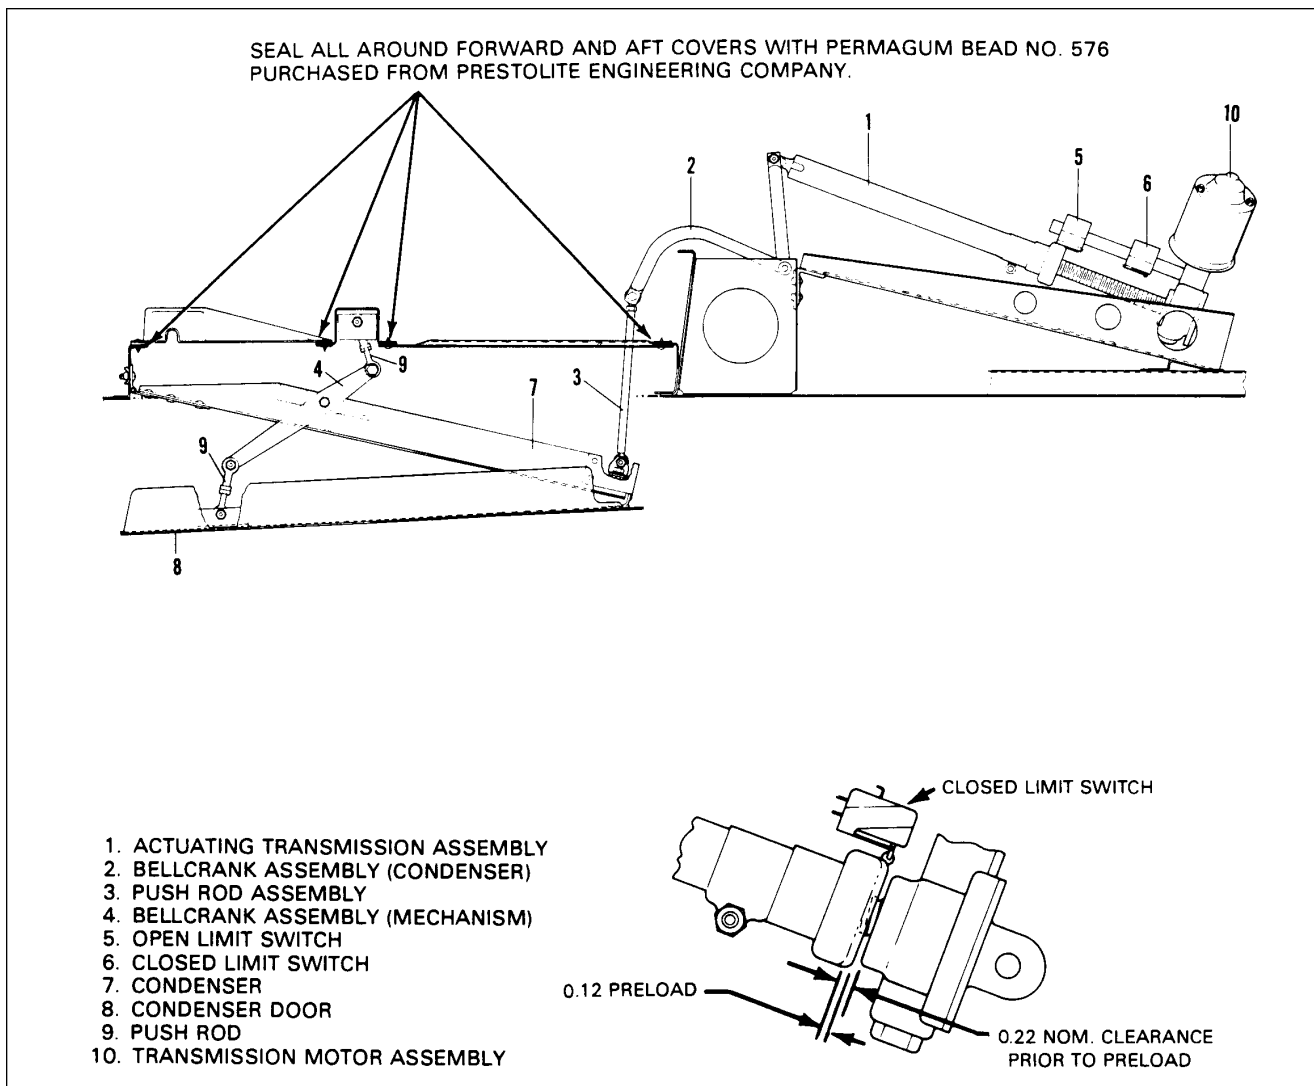

Figure 14-11. Condenser Air Scoop Installation
- f. Seal around forward cover panel (and aft cover panel if removed) with Permagum Bead no. 576 purchased from Prestolite Engineering Company. (See Figure 14-11.)
The actuator is on a bracket mounted between two bulkheads in tail cone. It is coupled to the condenser assembly through a bellcrank mounted to a bracket on bulkhead aft of condenser. Actuator travel is controlled by two limit switches. Both up and down switches are on the actuator. Refer to Figure 14-11 for switch locations.
14-32. CONDENSER DOOR ASSEMBLY RIGGING INSTRUCTIONS. (Refer to Figure 14-11.)
- Fully close door and adjust CLOSED limit switch so actuator travels an additional 0.12 inch with door fully closed, (required to pre-load mechanism). (Refer to Figure 14-11.)